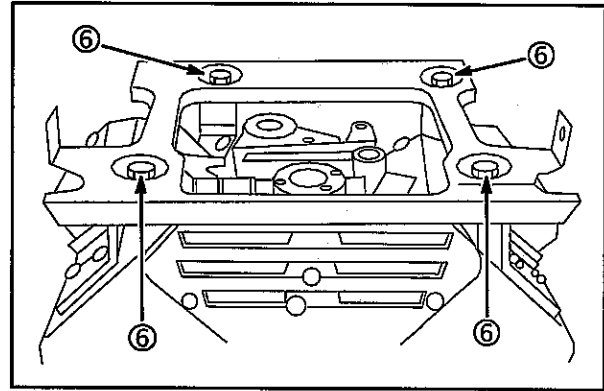

Fig. 2
7. Remove 4 screws (6) and the fuel tank base plate, Fig. 2.